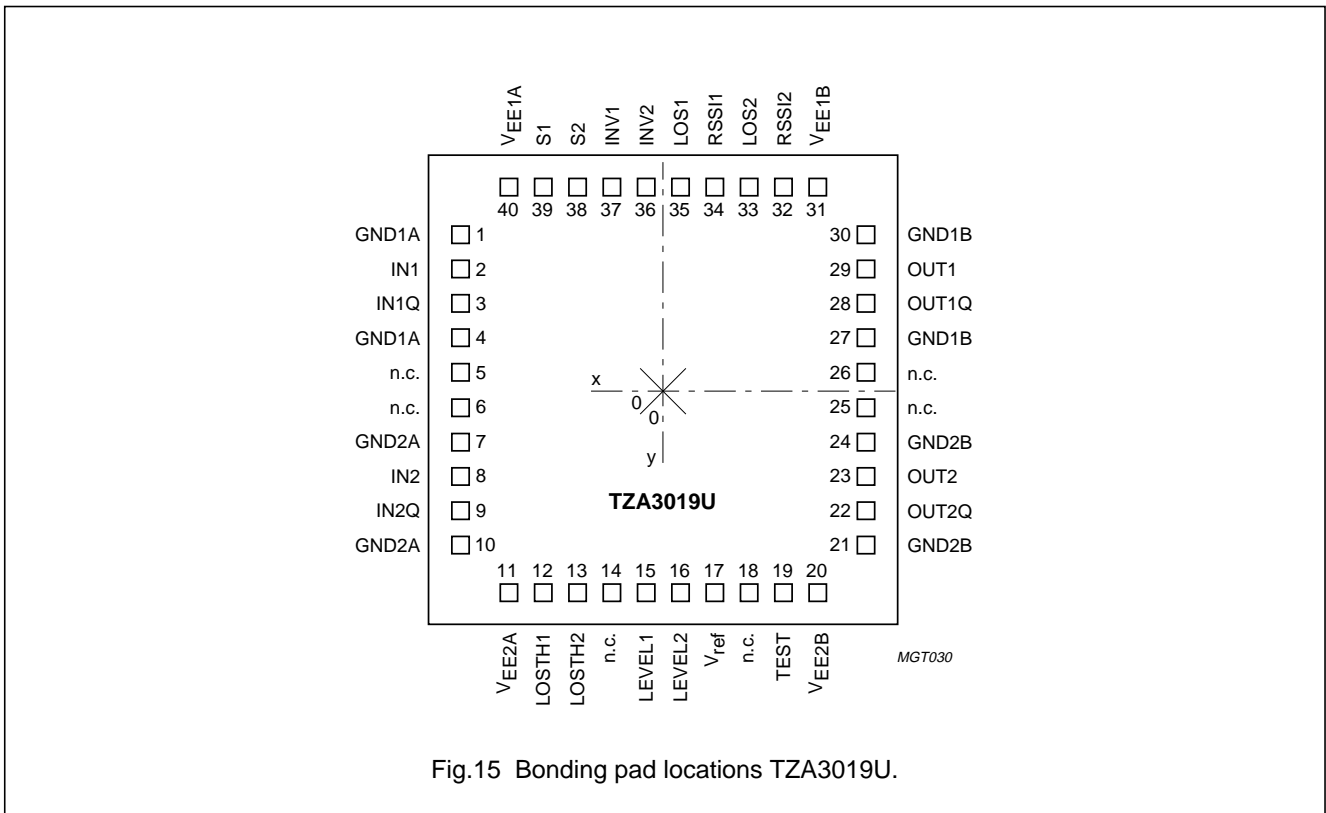

Fig.15 Bonding pad locations TZA3019U.
1. All x and y coordinates represent the position of the centre of the pad in µm with respect to the centre of the die (see Fig.15)